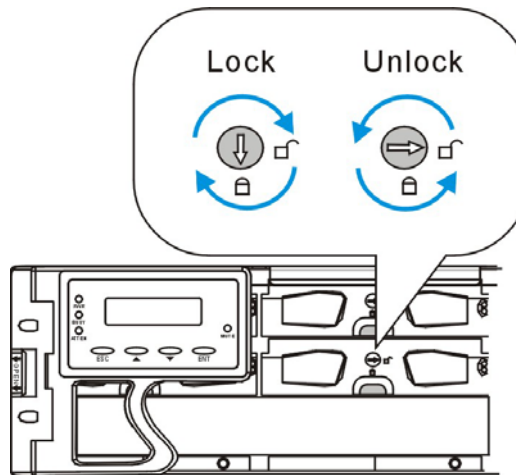

Figure 5-13: Drive Tray Key-Lock Rotation
**Remove the drive tray.** To remove the drive tray from the enclosure, the key-lock must be unlocked. (See **Figure 5-13**) To do this, turn the key-lock on the front of the drive tray until the groove on its face is in a horizontal orientation.